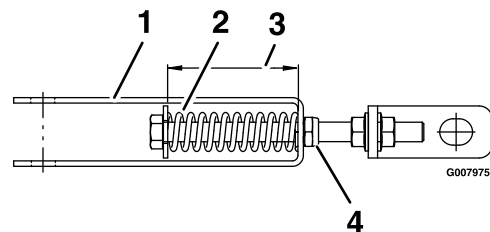

Figure 14
5. Disengage the park brake. Measure the length of the park brake spring. The spring should measure 2 1/2 inches (6.4 cm) (see Figure 14).